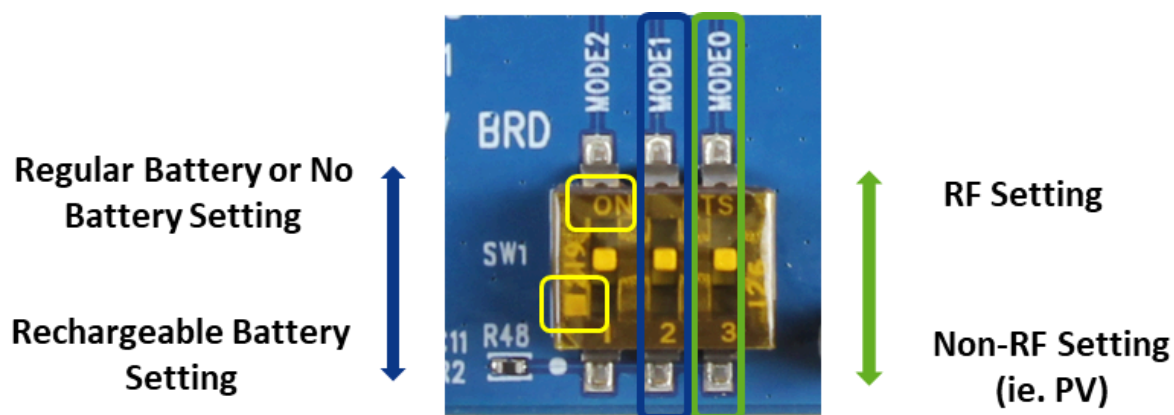

Figure 5 - DIP Switch Marking
- Figure 5 - DIP Switch Marking
The DIP switches to select battery option and harvesting type are shown in Figure 5. MODE0 can be used to select RF or non-RF harvesting settings (ie. PV harvesting). The **ON** marking on top is the direction for logical high, indicating RF setting; square dot at bottom left corner is the direction for logical low, indicating the non-RF setting. MODE1 can be used to select the battery options. **ON** indicates a system with regular battery or no battery, otherwise indicates a system with rechargeable battery. MODE2 is currently not programmed. If the device is in operation when the DIP switch position is changed, the EVB must be power cycled before the setting change will take effect, see Power Cycling the EVB section.